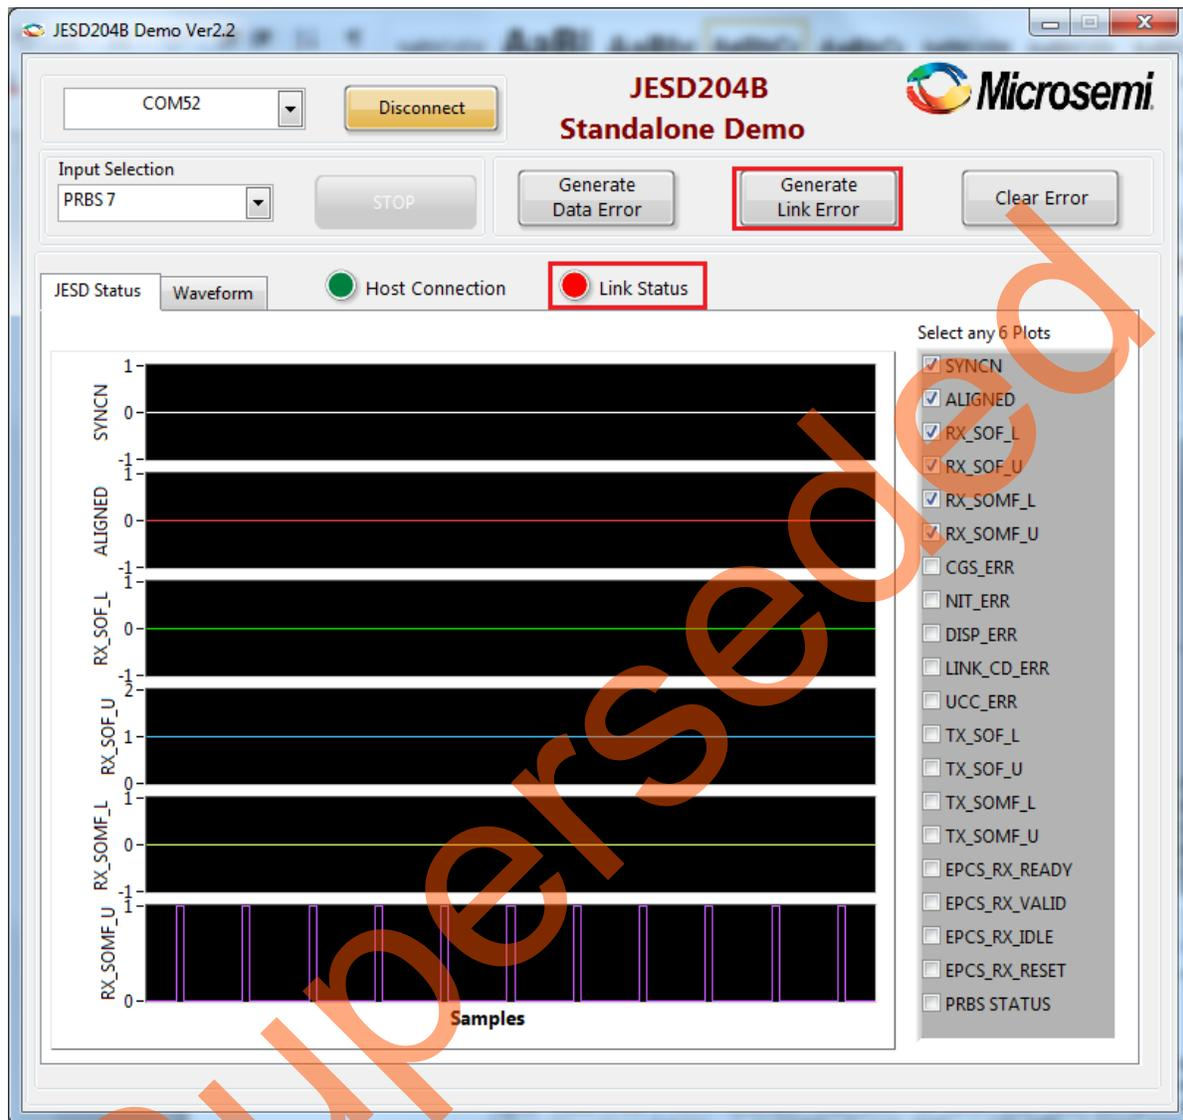

Figure 16 • Data Error Generation
- Click **Generate Link Error** to generate error in 20 bits SERDES lane. Figure 16 shows the **Link Status** changed to RED on link error.